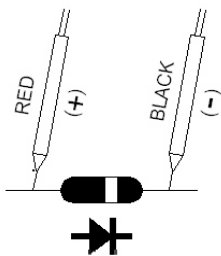

Fig. 2
4) a. When connected with polarity as shown in Fig. 2, a forward current flow is established and the approx. Diode Forward Voltage (VF) value in volt will appears on the display reading. If the diode under test is defective, " .000 " or near " .000 " value (short circuit) or " 1 " (open circuit) will be displayed.